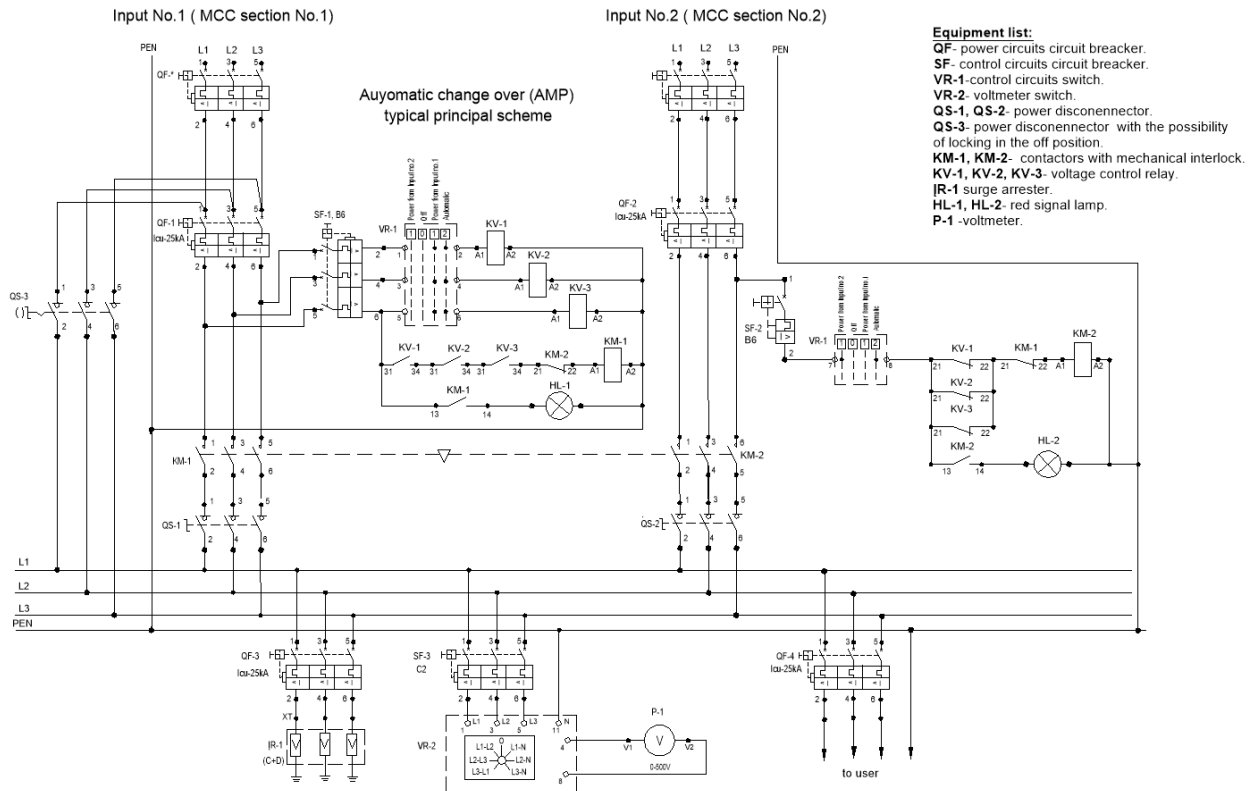

Figure 1. Automatic change over (AMP) typical principal scheme
- 4.20** If automatic change over (AMP) is required, AMP system shall be based on figure 1. provided scheme.